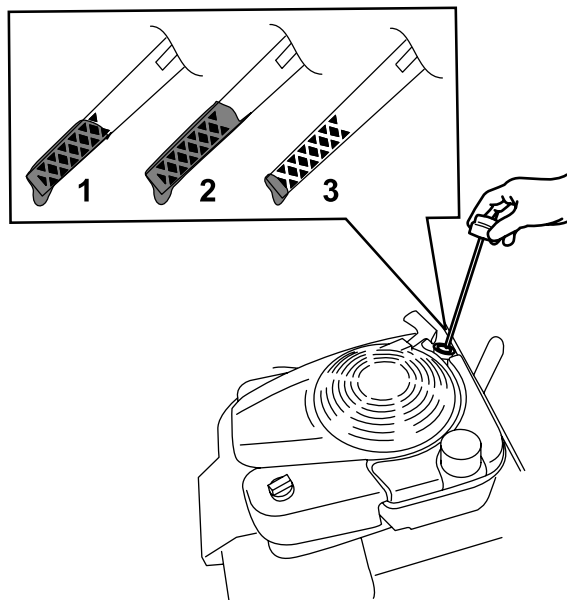

Figure 14
2. Remove the dipstick by rotating the cap counterclockwise and pulling it out (Figure 14).
5. Read the oil level on the dipstick (Figure 14).
- If the oil level on the dipstick is too low (Figure 14), carefully pour a small amount of SAE 30 or SAE 10W-30 detergent oil into the oil-fill tube, wait 3 minutes, and repeat steps 3 through 5 until the oil on the dipstick is at the correct level. For the oil type, refer to Changing the Engine Oil \(page 19\).
- If the oil level on the dipstick is too high (Figure 14), drain the excess oil until the oil on the dipstick is at the correct level; refer to Changing the Engine Oil \(page 19\).